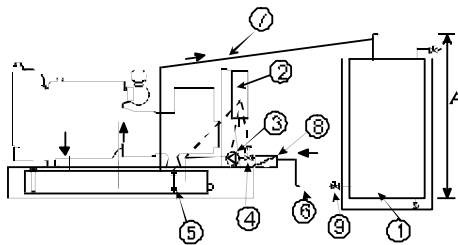

Figure 10.4: Typical Layout with Fuel System 4
**Fuel System 4:** Some installations may require a system where fuel is pumped from a free standing bulk tank (see Figure 10.4). This pumped system would only be used if gravity feed is not possible from the bulk tank to the basetank.
Distance 'A' on Figure 10.4 is limited to 1400mm for all generator sets with metal basetanks. Note that the maximum restriction caused by friction losses and height of the return line should not exceed 2 psi.